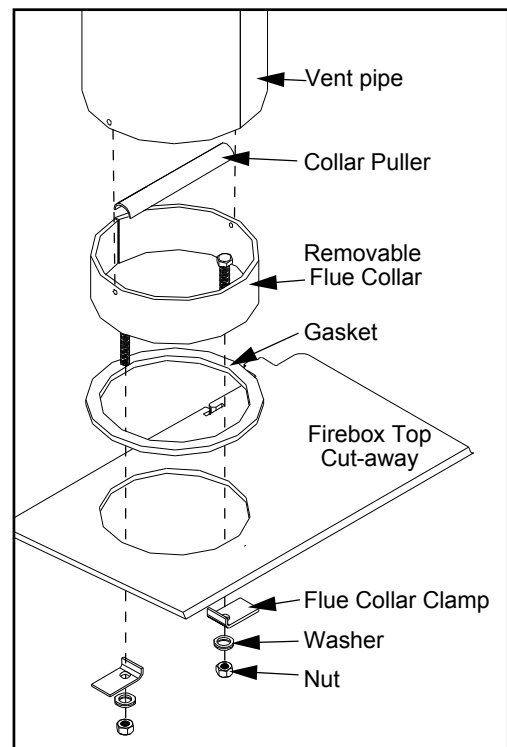

Figure 40: Attaching removable flue collar.
- a)** Remove the rear two (2) secondary air tube and C-Cast Ceramic Baffles, if installed (see C-CAST CERAMIC BAFFLE INSTALLATION). Remove the secondary air tubes by placing a screwdriver (any style except flat head) into one of the air holes and tapping it with a hammer/mallet to the left.
- b)** Unscrew the two (2) nuts on top of the inside of the firebox, using a $\frac{9}{16}$ " wrench or socket (see Figure 40). The Flue Collar Clamps will slide off the bolts.